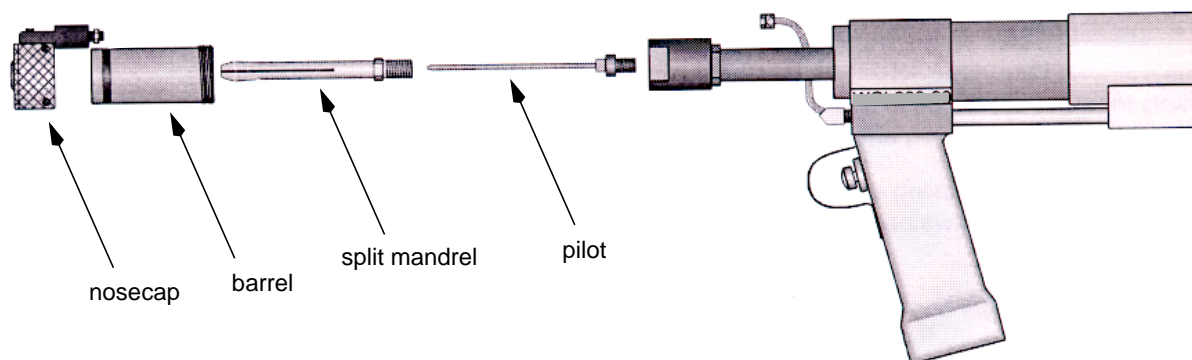

Figure 11 - Assembly of Split Mandrel to Puller Unit
5.4.2 Prepare split mandrel cold hole expansion tooling as follows (see Figure 11):